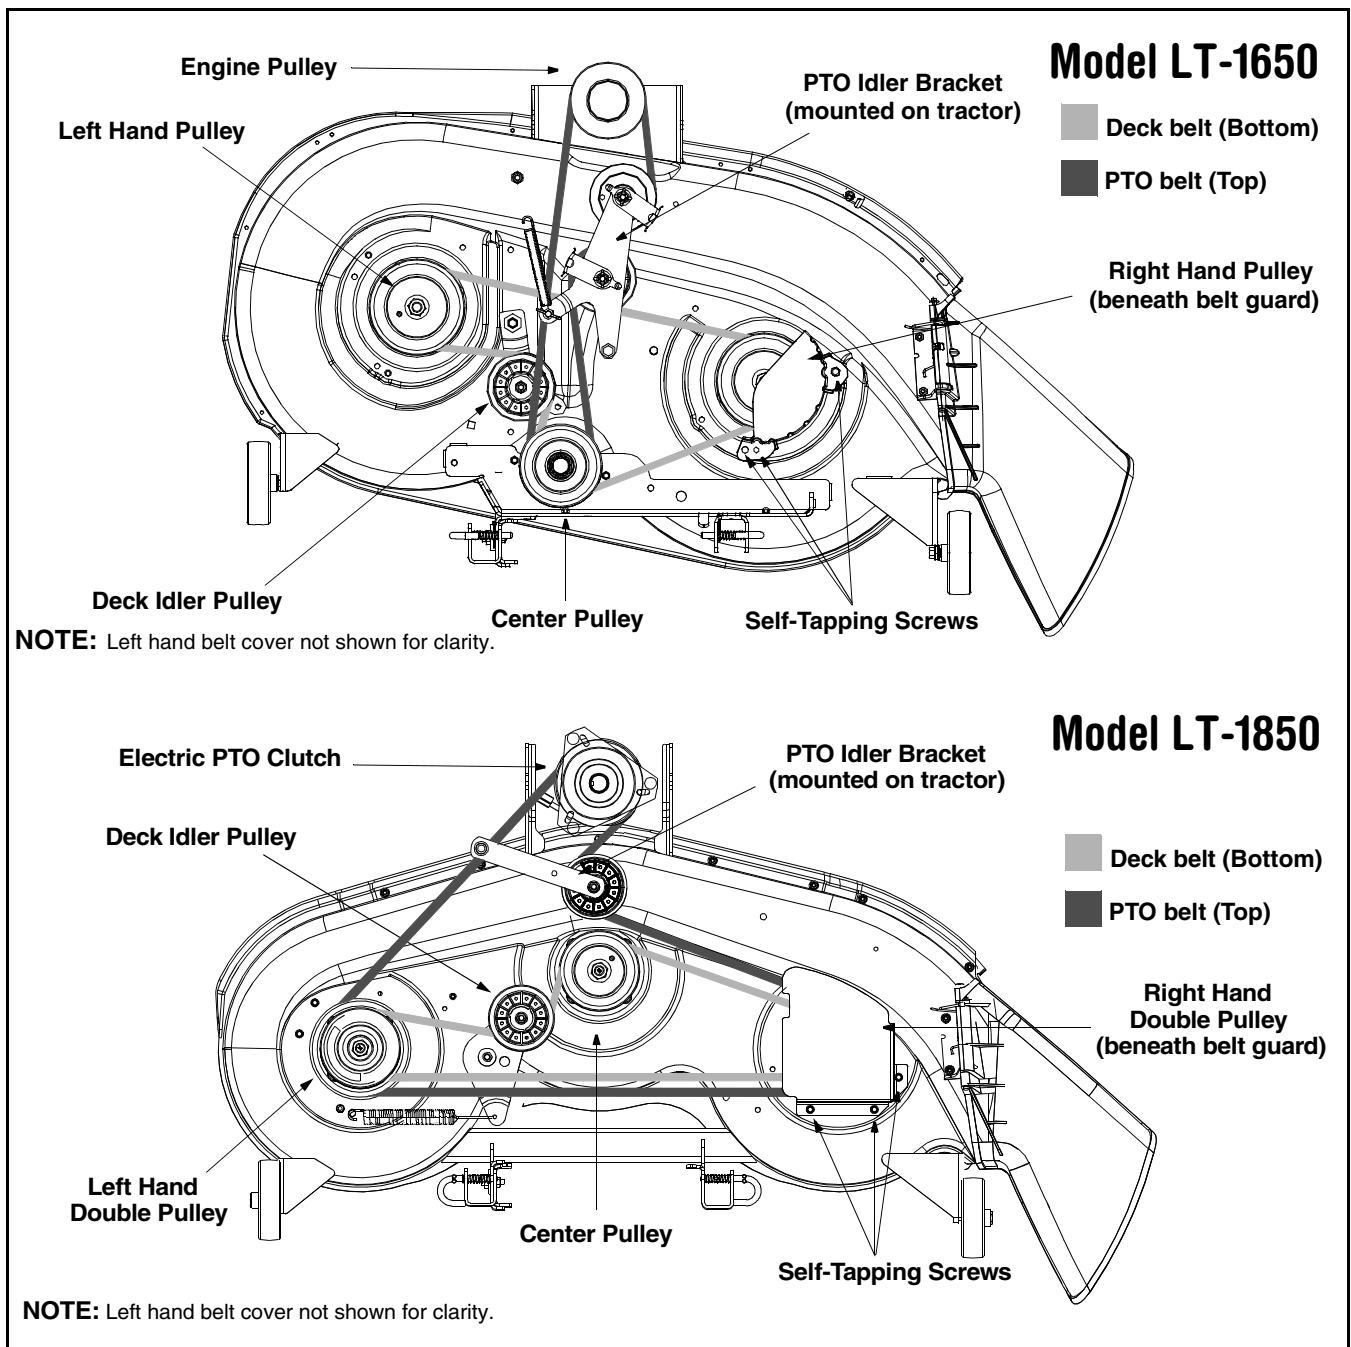

Figure 18
- On model LT-1650, remove the PTO belt from around the cutting deck's center pulley. On models LT-1850, remove the PTO belt from around the tractor's electric PTO clutch. Refer to Figure 18.
- Route the new belts as shown in Figure 18.